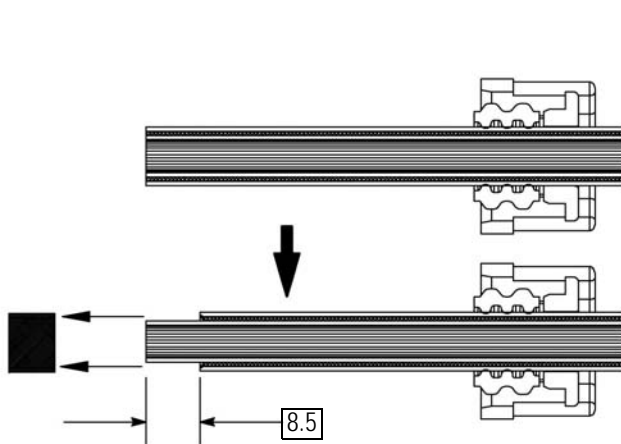

Figure 3
2. Cut and remove 8.5 mm of the braided cable shield and outer jacket from the end as shown in Figure 3.